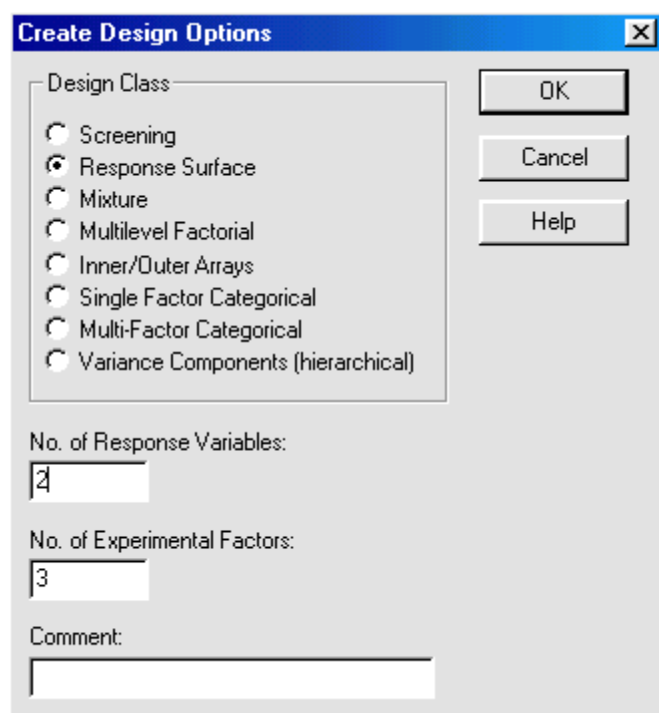

Figure 11-1. Create Design Options Dialog Box (Multiple Response Optimization)
1. Choose **SPECIAL... EXPERIMENTAL DESIGN... CREATE DESIGN...** from the Menu bar to display the Create Design Options dialog box shown in Figure 11-1.